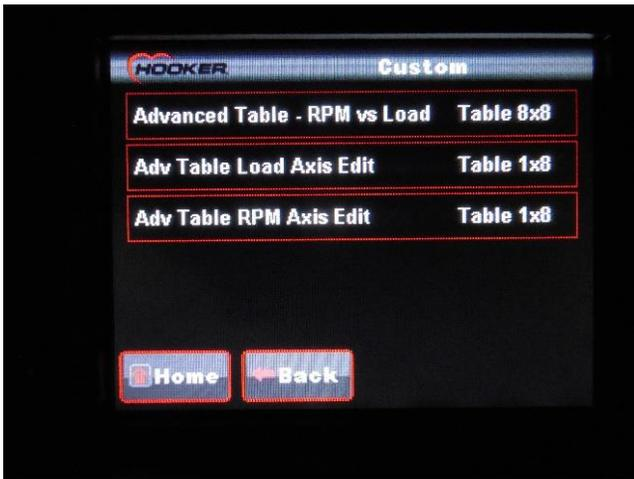

Figure 22
- Select Custom From the home screen and the custom menu screen will appear (**Figure 22**)